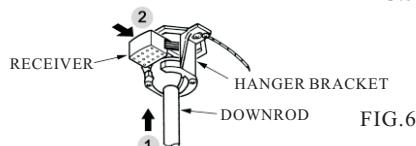

FIG.6
2. Carefully lift the fan and seat the down rod ball assembly on the hanger bracket. Be sure the groove in the ball is lined up with tab on the hanger bracket. Do not pinch wires between the ball and down rod assembly and hanger bracket(see Fig.6)